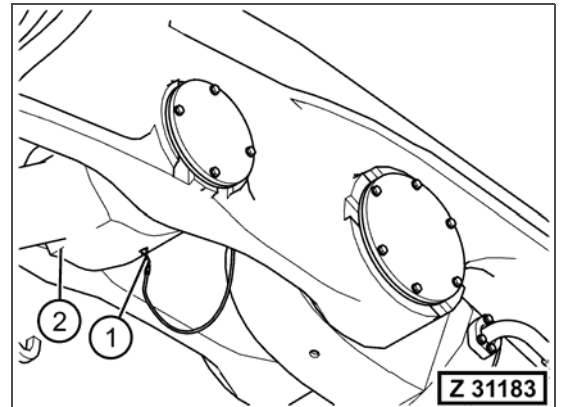

Fig. 5-294
6. Disconnect the grease line (Fig. 5-294, Pos. 1) of the central lubrication system from the eye of the corresponding bucket cylinder (Fig. 5-294, Pos. 2).